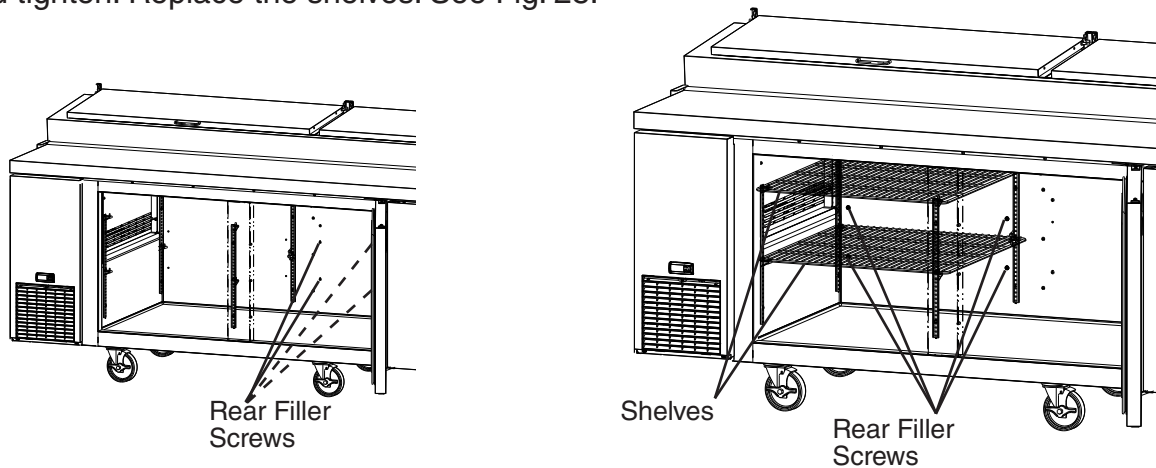

Fig. 28
- 9) Remove the drawer cartridge frame rear filler screws from the new location (current door location). Place the drawer cartridge frame filler screws in the new door location and tighten. Replace the shelves. See Fig. 28.